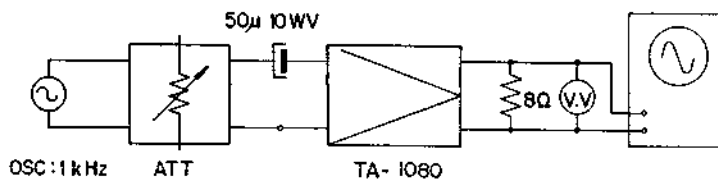
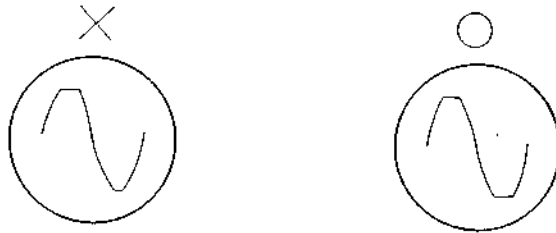

Fig. 1
Fig. 2
- (1) Removal of power amplifier and power supply section.
- (b) Remove five screws (RF3×6) from bottom of chassis to release the back panel section as in Fig. 1.
- (d) Remove the five screws (RF4×10) from heat sink and unsolder the power amplifier input shield wire, now you can turn that section to make the circuit board up as shown in Fig. 2 and Fig. 3.
- (2) Removal of preamplifier section and control panel.
- (a) After taking off the chassis cover, remove the two screws (RF3×6) from front side of bottom plate as shown in Fig. 1.
(Fig. 1)
(Fig. 2)
- 2) Supply 1 KHz signal to the input terminal (X107 or 207 Base) through attenuator and 50  $\mu$ F capacitor as shown in Fig. 1.
- 3) Increase the signal gradually and turn the adjustable resistor ( $50K\Omega$ , R160, R260) to get the both upper and lower side of wave form are clipped at the same time as shown in Fig. 2.